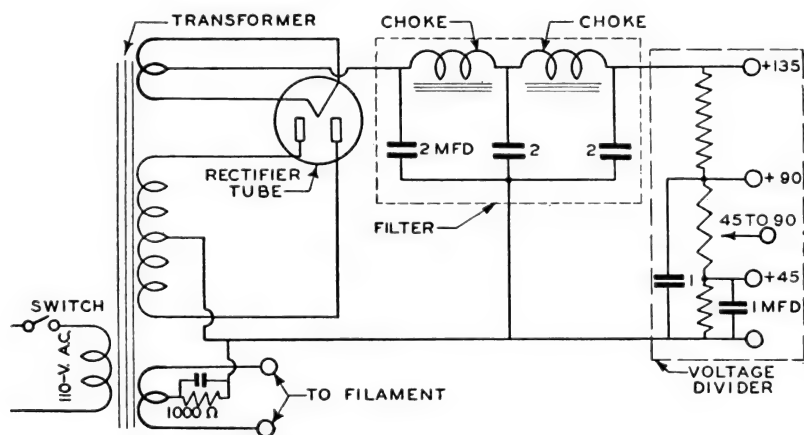
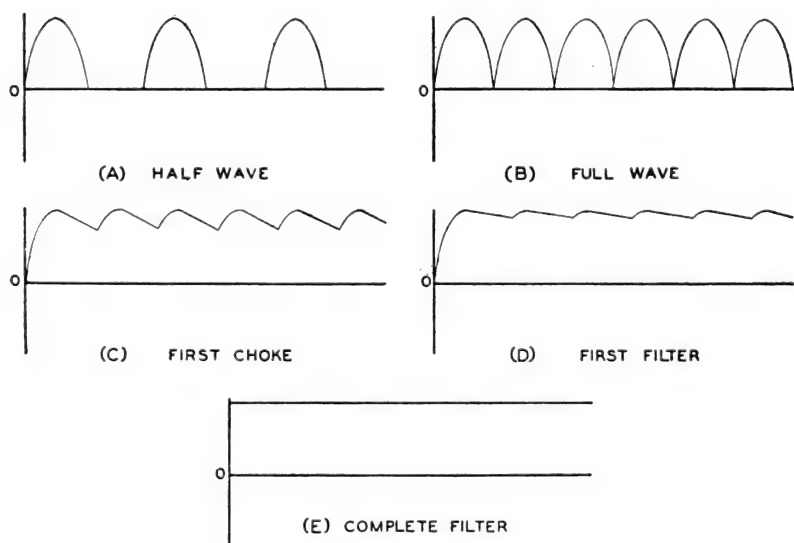

Fig. 20. Wiring Diagram of a Power-Supply Unit of a Radio Set
Fig. 21. Wave-Form Picture Showing How Pulsations Are Smoothed Out by Condensers and Choke Coils
In order to furnish the proper voltages for operating the tubes of a radio set, a radio supply unit is used. This unit consists of a *radio power-pack transformer*, a *rectifier tube*, a *filter*, and a *voltage divider*. A wiring diagram of this combination of units is shown in Fig. 20. The transformer connections are similar to those previously studied in connection with half-wave and full-wave rectifier tube circuits. The added unit in Fig. 20 is the filter and voltage divider.
**Filters.** Voltage pulsations, such as delivered by rectifier tubes, and shown in the wave-form pictures at (A) and (B) of Fig. 21, cause variations in the output of a circuit. Each of the pulsations causing a varying plate voltage produces a corresponding rise and fall in the flow of plate current. Therefore, it is necessary to introduce apparatus to eliminate the variations and to provide direct current as nearly pure as possible.
Due to the action of a *rectifier tube* of the full-wave type, a 60-cycle alternating current will produce 120 pulsations which must be filtered if the current flow is to be continuous. A half-wave rectifier produces 60 pulsations. In other words, a full-wave rectifier, shown in (B) of Fig. 21, produces twice as many pulsations as the original current; a half-wave rectifier produces the same
Referring now to Fig. 20, the alternating-current—or pulsations delivered by the *rectifier tube*—are effectively stopped by the inductance units (*chokes*) in the positive side of the circuit. However, the condensers connected between the positive and the negative sides of the circuit provide a path for the alternating-current impulses by alternately charging and discharging the plates of the condensers.
Fig. 7 shows the relative wave form of the voltage in the primary and secondary windings of the transformer in a power-supply device. That in the primary winding of the power transformer, Fig. 20, is usually 115-volt alternating current. One of the secondary windings steps down the voltage for the filament of the rectifier tube. Another secondary winding steps up the voltage in order to provide voltages needed for the circuits of the radio
However, after passing through the rectifier tube, the wave form changes perceptibly, as shown at (A) in Fig. 21. Each of the alternations above the zero potential line, Fig. 7, has been retained, and the space between them has been filled with the reverse alternations, as in (B) of Fig. 21. The current is now pulsating, but does not reverse its direction of flow.
The first condenser in the filter network assumes a charge during the time when the voltage is increasing in each of the alternations, and gives up its charge during the period when the voltage is decreasing, so that it has a wave form similar to that shown at (C) of Fig. 21, before it reaches the left-hand terminal of the *first choke coil*. Fig. 20.
The counter-electromotive force set up in the choke coil retards the change of flow of the pulsating current, and the peak voltages tend to increase the charge upon the plates of the first condenser, thus giving it a still greater charge to fill in the valleys between the peaks of the wave. So, at the output of the first choke coil, the voltage has assumed the form as shown at D, Fig. 21.
After the current has passed through the second portion of the filter network, during which time it is subjected to the same process as during the first half of the filter, it assumes a practically steady voltage at (E) of Fig. 21, such variations as remain being negligible in their effect upon the radio or amplifier circuits.
The circuit shown in Fig. 20 represents the fundamental type of power-supply unit. In practice, it may be found unnecessary to use more than one choke because a single choke may serve to effectively produce a continuous flow of direct current. The field coil of a loud-speaker may be used as one of the choke coils; or, because of its high inductance, the field coil may serve as the only choke coil required.
**Voltage Divider.** In order to supply the proper potentials to the various elements of the vacuum tubes in the radio or amplifier stages, it is necessary to make provision for voltages of different values. Fig. 20 shows the *voltage divider* used in earlier models of power units in radio receiving sets, the resistance unit being con-